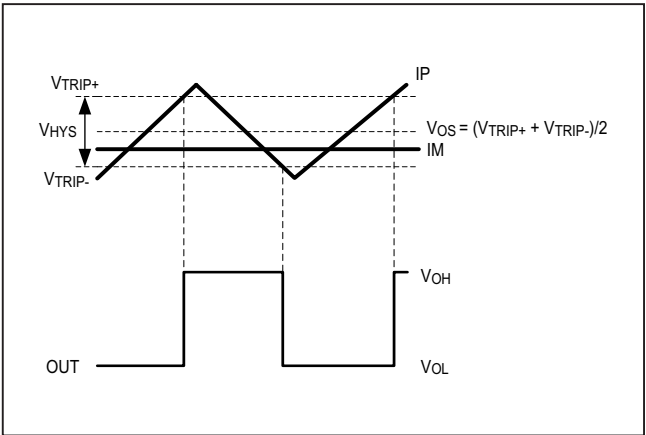

Figure 1. Hysteresis Band
**Note 4:** The hysteresis-related trip points are defined as the edges of the hysteresis band, measured with respect to the center of the band (i.e.,  $V_{OS}$ ) (Figure 1).
The hysteresis in a comparator creates two trip points: one for upper threshold (VTRIP+) and one for lower threshold (VTRIP-) for voltage transitions on the input signal (Figure 1). The difference between the trip points is the hysteresis band (VHYS). When the comparator's input voltages are equal, the hysteresis effectively causes one comparator input to move quickly past the other, thus taking the input out of the region where oscillation occurs. Figure 1 illustrates the case in which IM has a fixed voltage applied, and IP is varied. If the inputs were reversed, the figure would be the same, except with an inverted output.